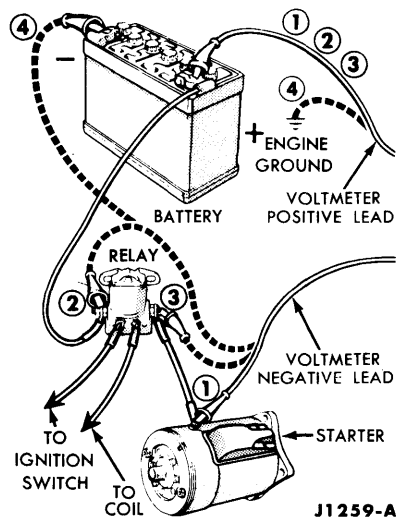

FIG. 6—Starter Cranking Circuit Test
Excessive resistance in the starter circuit can be determined from the results of this test. Make the test connections as shown in Fig. 6. Crank the engine with the ignition OFF. This is accomplished by disconnecting and grounding the high tension lead from the spark coil and by connecting a jumper from the battery terminal of the starter relay to the ignition switch terminal(s) of the relay.
1. With the voltmeter negative lead connected to the starter terminal and the positive lead connected to the battery positive terminal (Fig. 6, connection ①)..0.5 volt.
2. With the voltmeter negative lead connected to the battery terminal of the starter relay and the positive lead connected to the positive terminal of the battery (Fig. 6, connection ②)0.1 volt.
3. With the voltmeter negative lead connected to the starter terminal of the starter relay and the positive lead connected to the positive terminal of the battery (Fig. 6, connection ③)0.3 volt.
lead connected to the negative terminal of the battery and the positive lead connected to the engine ground (Fig. 6, connection ④)0.1 volt.